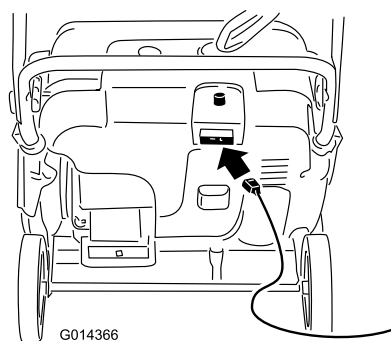
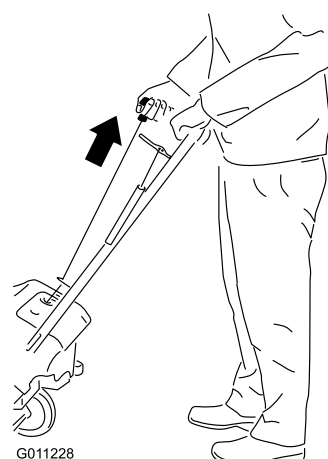

Figure 17
Figure 18
4. Connect an extension cord to a power source and the machine, and push the electric-start button (model 38742 only) (Figure 17), or pull the recoil start handle (Figure 18).